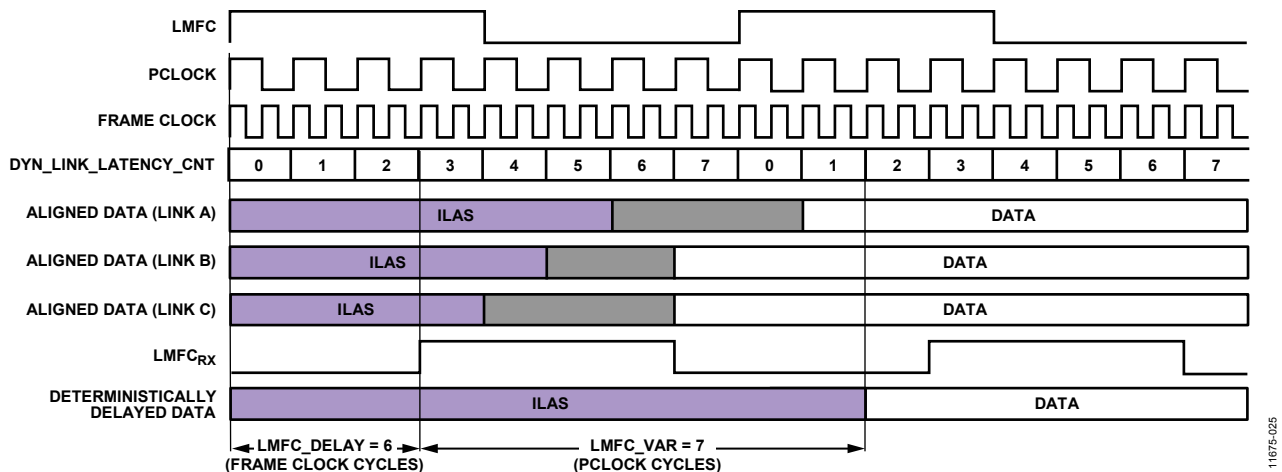

Figure 51. Multilink Synchronization Settings, Derived Method Example
Figure 51 shows how DYN_LINK_LATENCY_x (Register 0x302 and Register 0x303) provides a readback showing the delay (in PClock cycles) between LMFC_{RX} and the transition from ILAS to the first data sample. By repeatedly power-cycling and taking this measurement, the minimum and maximum delays across power cycles can be determined and used to calculate LMFCVar and LMFCDel.
The example shown in Figure 51 is demonstrated in the following steps according to the procedure outlined in the Without Known Delays section. Note that this example is in Subclass 1 to achieve deterministic latency, which has a PClockFactor (FrameClockRate/PClockRate) of 2 and uses K = 16; therefore PClocksPerMF = 8.
1. In Figure 51, for Link A, Link B, and Link C, the system containing the AD9144 (including the transmitter) is power cycled and configured 20 times. The AD9144 is configured as described in the Device Setup Guide. Because the point of this exercise is to determine LMFCDel and LMFCVar, the LMFCDel is programmed to 0 and the DYN_LINK_LATENCY_x is read from Register 0x302 and Register 0x303 for Link 0 and Link 1, respectively. The variation in the link latency over the 20 runs is shown in Figure 51 in grey.